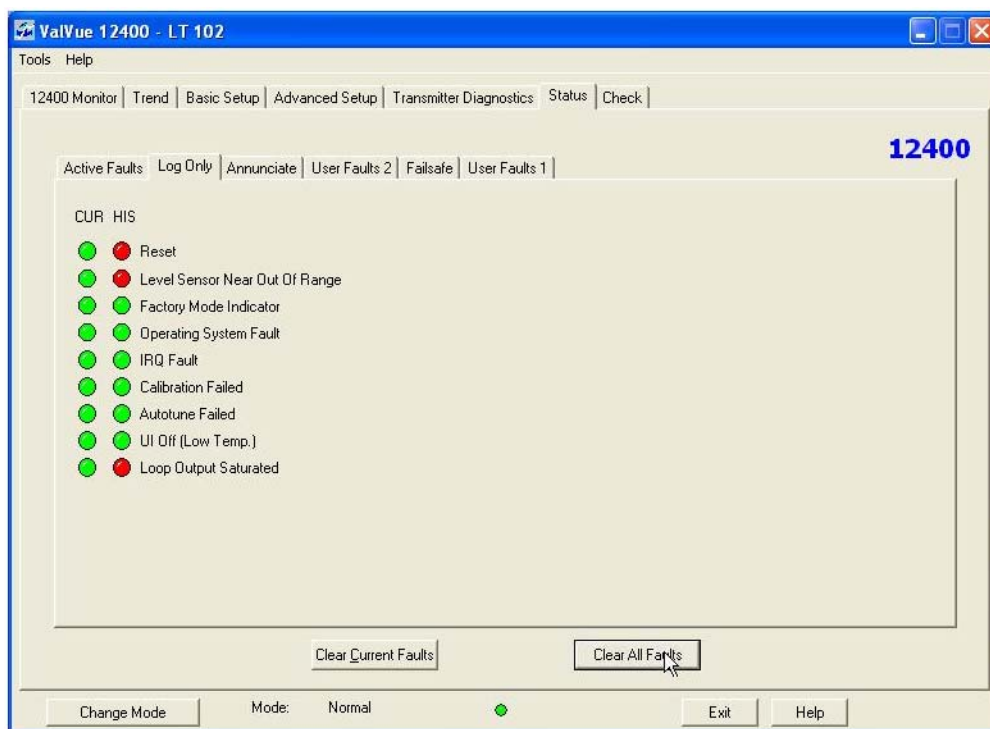

Figure 276 Clearing All Faults
- Click **Clear All Faults** (Figure 276).